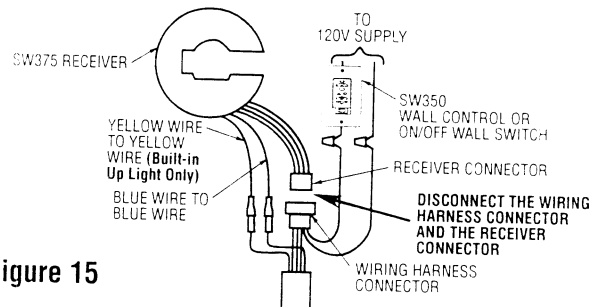

Figure 15
2. Turn the power OFF on the first fan by either flipping the ON/OFF switch on the SW350 or turning OFF the wall switch (if using a SR330 Remote Control). If there is not wall switch and you are operating the fan with the SR330 Remote Control only, disconnect the wiring harness in the receiver (See Figure 15).